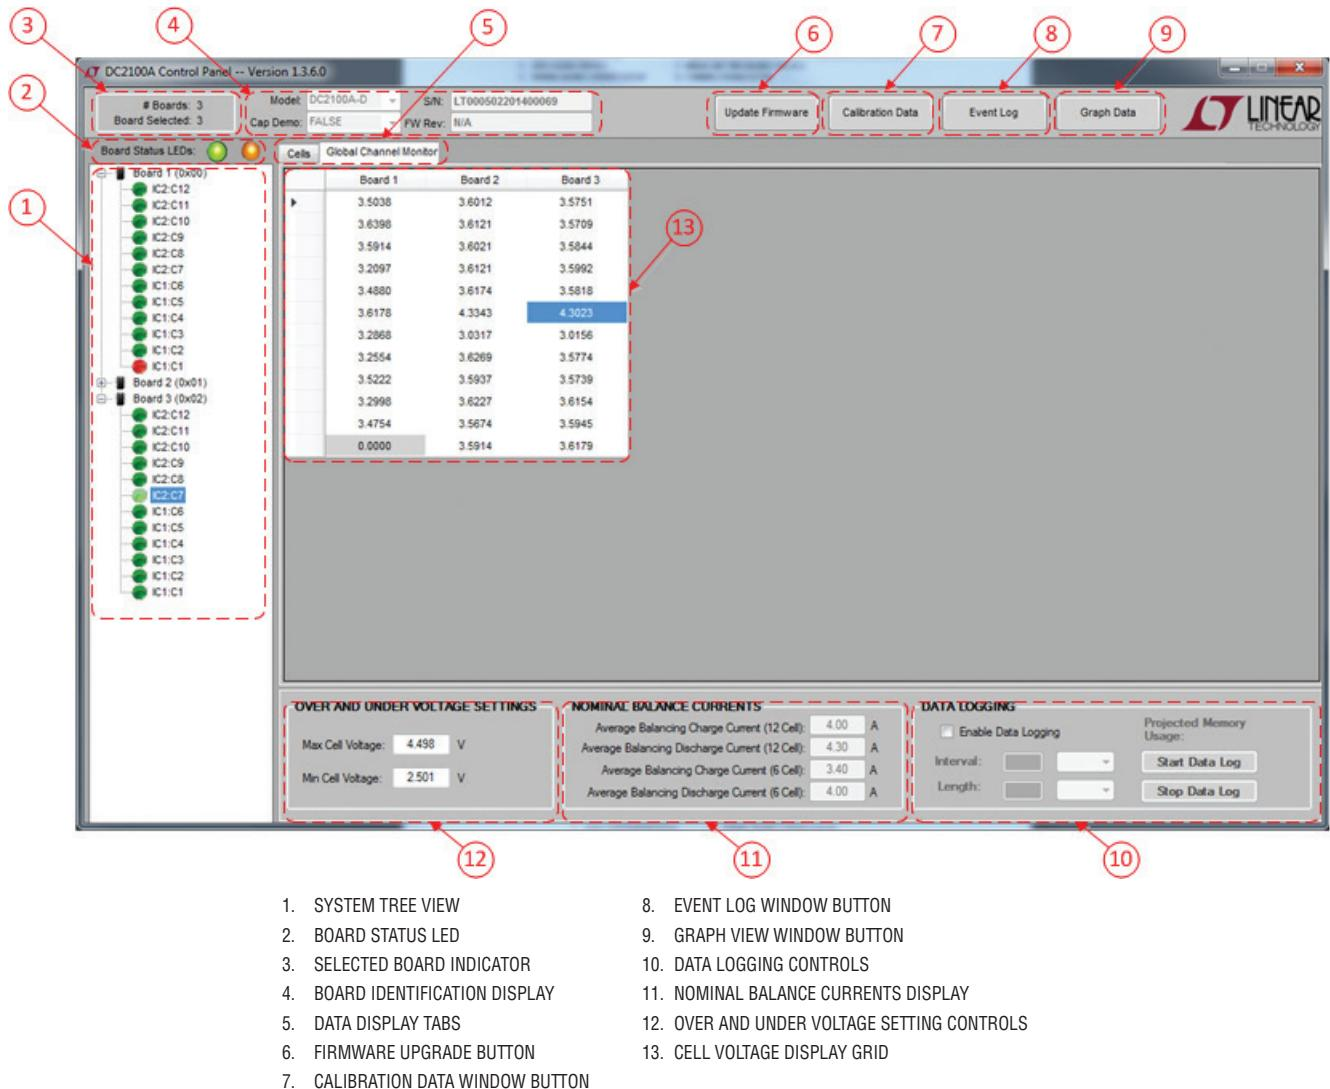

Figure 30. Control Panel Window – Global Channel Monitor View
2. CONTROL PANEL WINDOW – FIGURE 30 (GLOBAL CHANNEL MONITOR TAB)